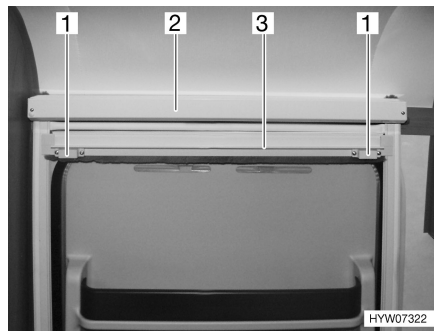

Fig. 13 Insect screen, conversion door
The insect screen of the conversion door is located in the upper blind box (Fig. 13,2).
- Closing:** ■ Pull the insect screen down by the bar (Fig. 13,3) until the magnets (Fig. 13,1) adhere to the metal bar on the floor.
- Opening:** ■ Pull the bar (Fig. 13,3) slightly upward until the magnets are released, then slowly guide the insect screen back into the blind box.